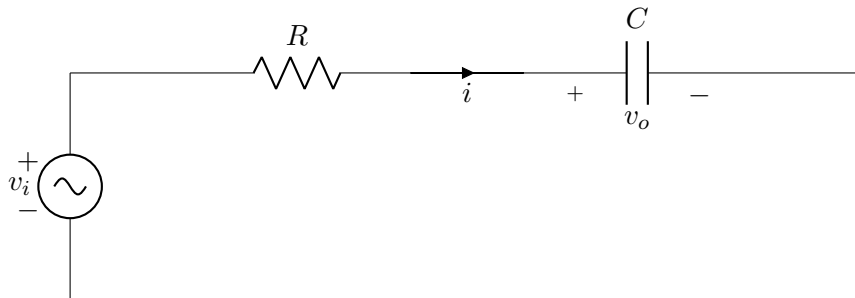

Figure 1.2: RC circuit.
We start off by making an RC circuit (Fig. 1.2) using blocks: In practice, the simplest way to do this is to use the transfer-fn block. We will use it later: First, our objective here is to make you familiar with how to make nested hierarchical subsystems in Simulink.
- Referring to Fig. 1.2, the ODE